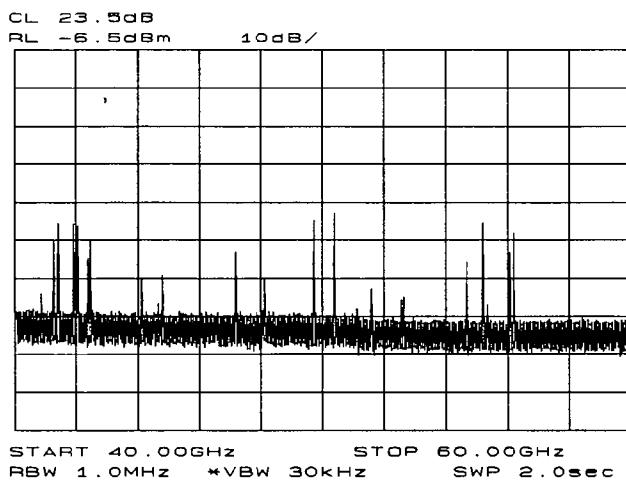

Figure 3-33. Signal Responses Produced by a 50 GHz Signal in U Band
3. The IF output of a harmonic mixer contains many mixer products (frequencies of LO \pm source, 2LO \pm source, 3LO \pm source ... nLO \pm source). As a result, within a single harmonic band, a single input signal can produce many responses, only one of which is valid. These responses come in pairs, where the members of the valid pair are spaced 621.4 MHz apart (see Figure 3-33) and the right-most member for the pair is the correct response (for this analyzer, the left member of a pair is not valid).